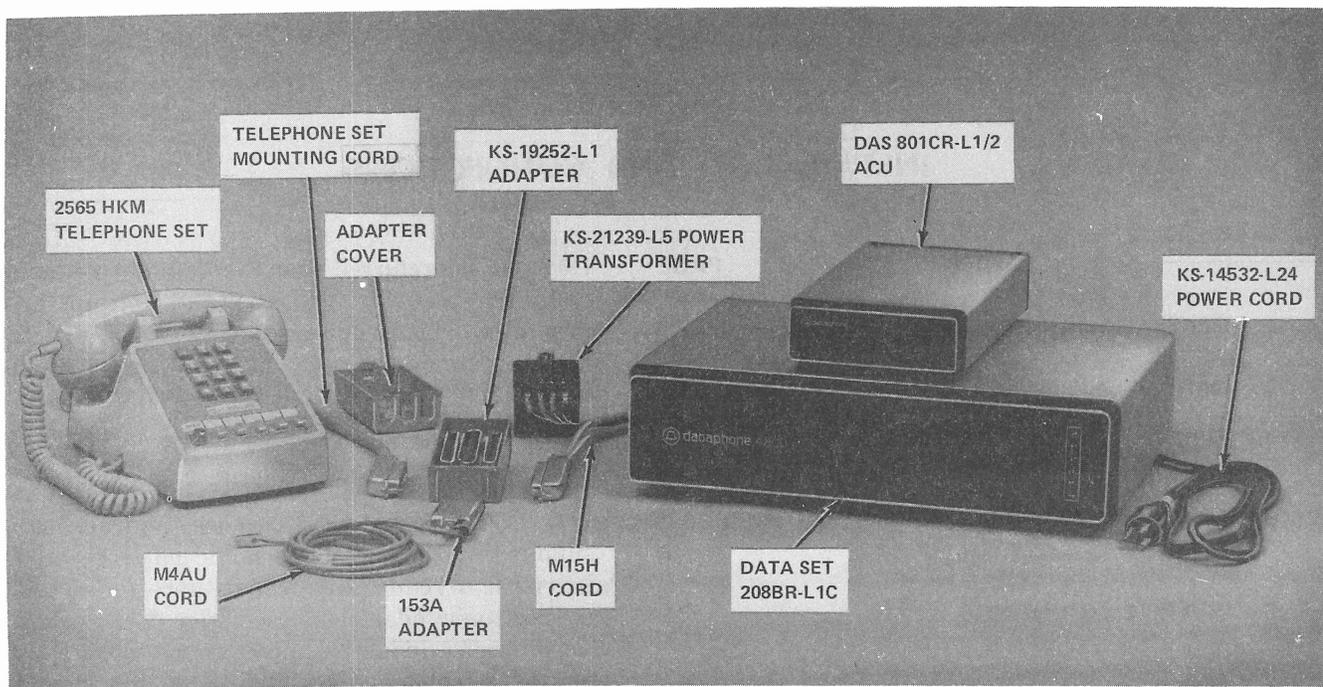

Fig. 1—Single Data Set 208BR-L1C With ACU—Station Components
**1.01** This section contains information concerning installation and connection of data set (DS) 208BR-L1C. The "R" in the data set designation indicates that the data set is for use in data set arrangements registered with the FCC. The registration number for DS 208BR-L1C is AS593M-62936-MD-E. DS 208BR-L1C is a synchronous, binary, serial 4800-bps data set for use on the 2-wire switched telecommunications network. The data set should be installed in conformance with existing installation practices. Refer to the section entitled Data Sets and Data Access Arrangements—General Installation and Connection Information (590-010-200). A 565HKM or 2565HKM telephone set is recommended for use with the data set to provide manual call origination and voice/data transfer on the switched network. The telephone set must be ordered separately. If automatic call origination is required, a Bell System data auxiliary set (DAS) 801CR-L1/2 automatic calling unit (ACU) is required and must be ordered separately. Station components required for an installation using an ACU are shown in Fig. 1.